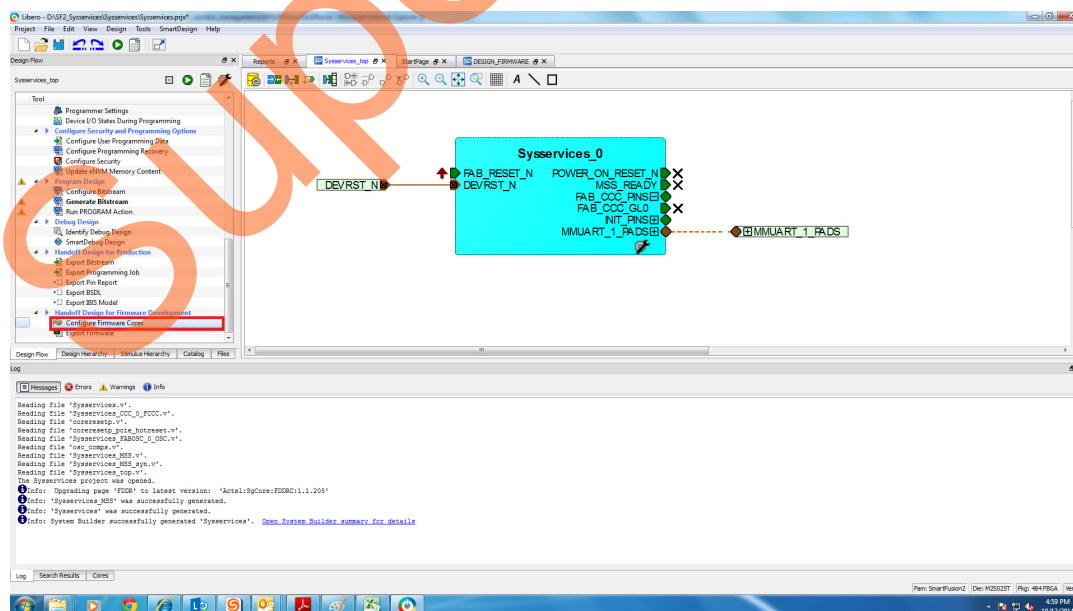

Figure 11 • Opening DESIGN_FIRMWARE Window
1. Click **Design > Configure Firmware** in Libero SoC to open the **DESIGN_FIRMWARE** window, as shown in Figure 11.